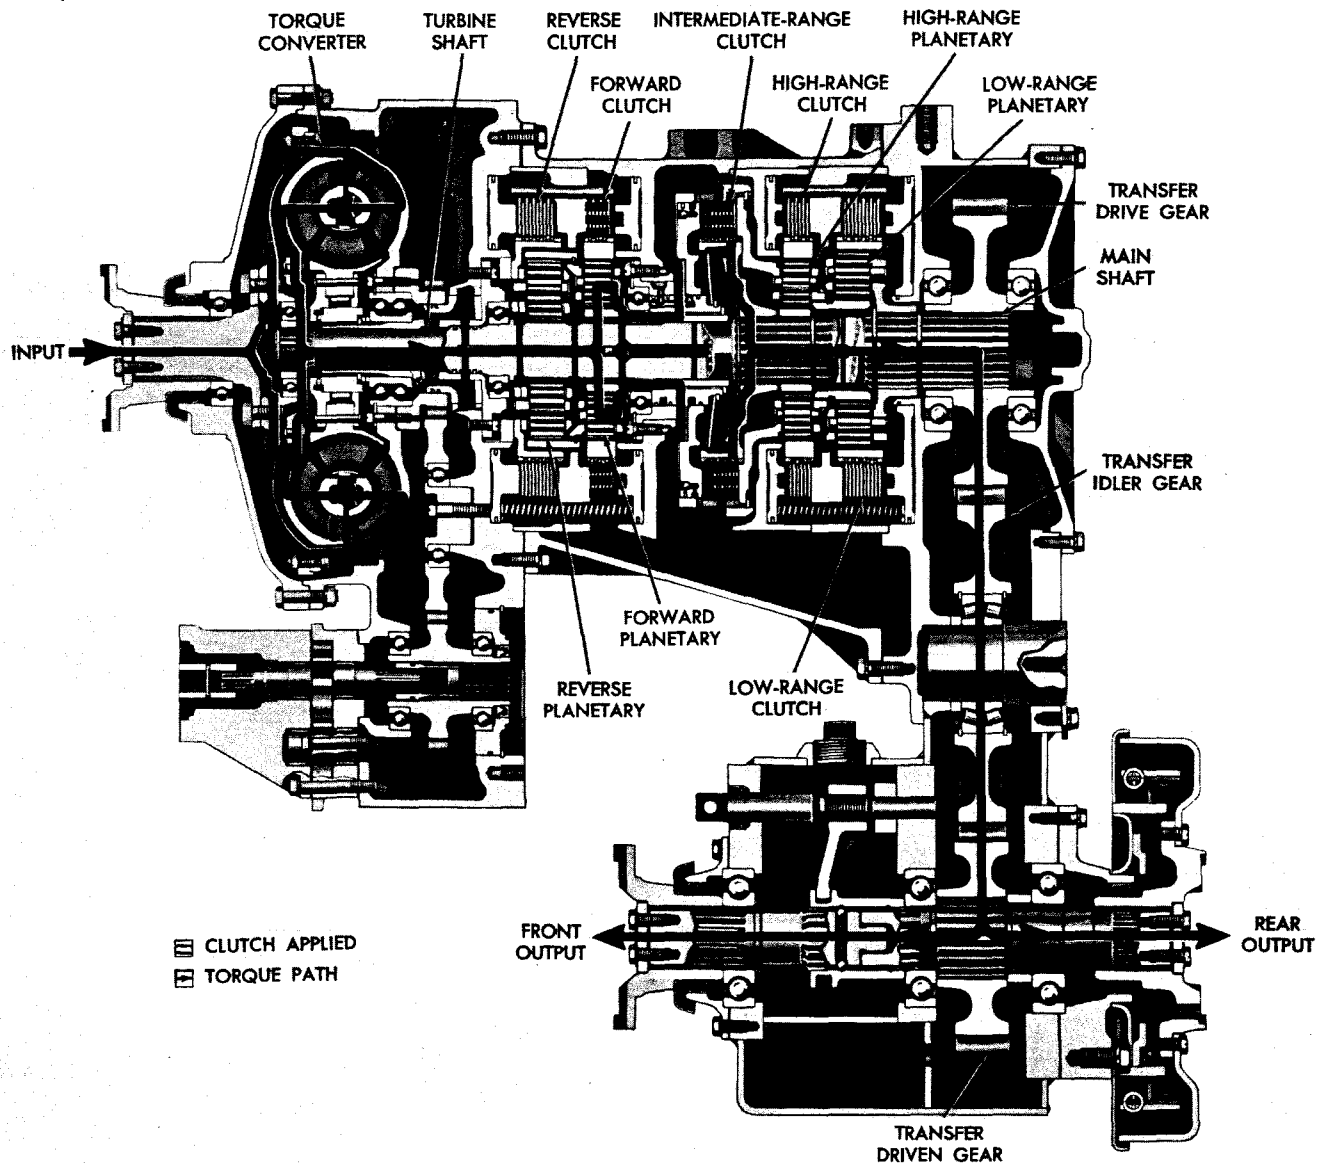

Fig. II-3. Forward, intermediate range—torque path (CRT 3531-1 or CRT 3630-1)
25. TORQUE PATH — FORWARD, INTERMEDIATE RANGE (fig. II-3)